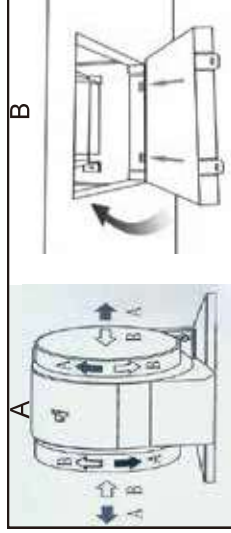

Fig. 14
- The active carbon filters purify the air that is replaced in the environment. The filters are not washable or reuseable and must be replaced at maximum every four months. The saturation of the active carbon filter depends on the frequency of use of the appliance, also by the type of cooking and the regularity of cleaning on the anti-grease filters. (Fig.14) To remove the charcoal filters place our hand on one filter at a time and turn it toward the front part. The charcoal filter can now be removed. Always ensure to replace both filters at the same time.